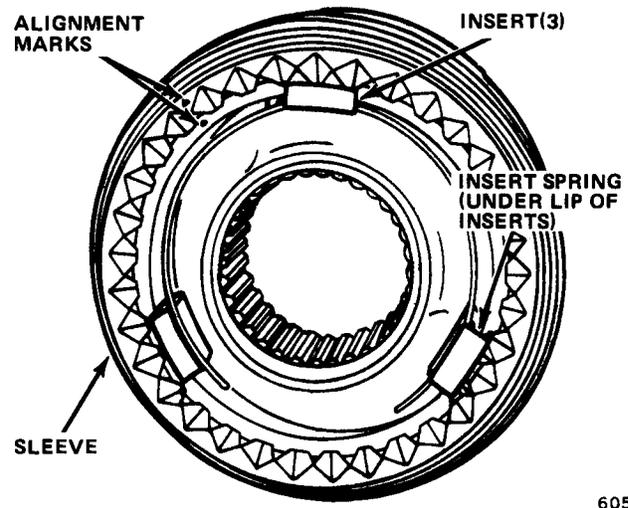

Fig. 6-13 Second-Third Synchronizer Assembly
(17) Install one insert spring into Second-Third hub. Be sure spring covers all three insert slots in hub. Align Second-Third sleeve to hub using marks made during disassembly, and start sleeve onto hub.
(18) Place three inserts into hub slots and on top of insert spring, then push sleeve fully onto hub to engage inserts in sleeve (fig. 6-13). Install remaining in-
NOTE: Inserts have a small lip on each end. When correctly installed, this lip will fit over insert spring (fig. 6-13).